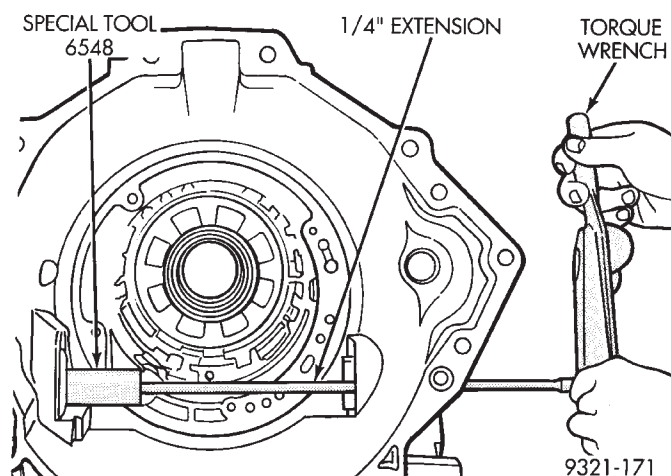

Fig. 320 Special Tool 6548
(29) Insert special tool 6548 (Fig. 320). This tool will be used to check turning torque of the differential assembly.